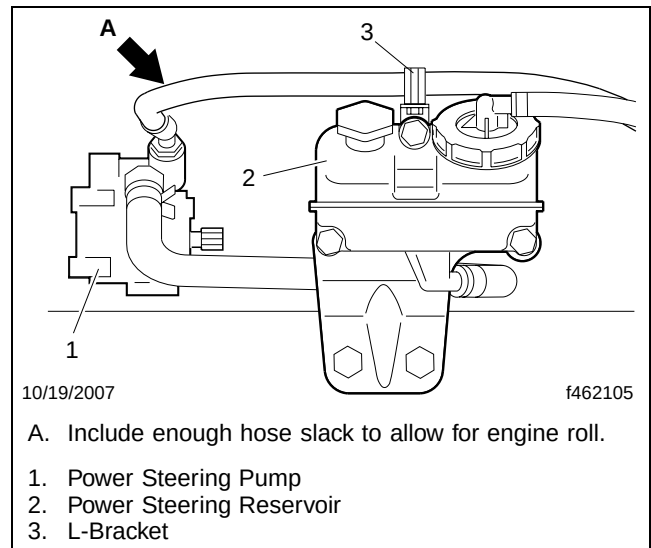

Fig. 6, Hose Routing To Pump (S60 Shown)
32. Install and route the new pressure line from the frame-mounted hose bracket to the pump, and include extra hose between the L-bracket on the top-mount of the reservoir and the pump to allow for engine roll. See **Fig. 6**. Tighten the fitting 42 to 52 lbf-ft (57 to 70 N·m).
35. Using hose clamps, install the new power steering pump suction line on the reservoir and pump. See **Fig. 6**.